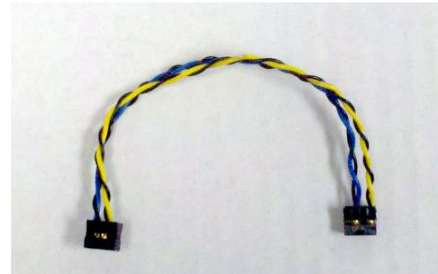

Figure 1. Internal Timing Cable for Series G BiPotentiostat (986-00057).
The timing cable is part number 986-00057. It is shown in Figure 1. One side is designed to connect to the Master potentiostat and the other is designed to connect to the Serf potentiostat. Please use the following steps:
- 3) On the Serf potentiostat, locate the pin labeled J402, shown highlighted in Figure 1. Install a jumper at J402. *Do not install a jumper on the Master potentiostat.*